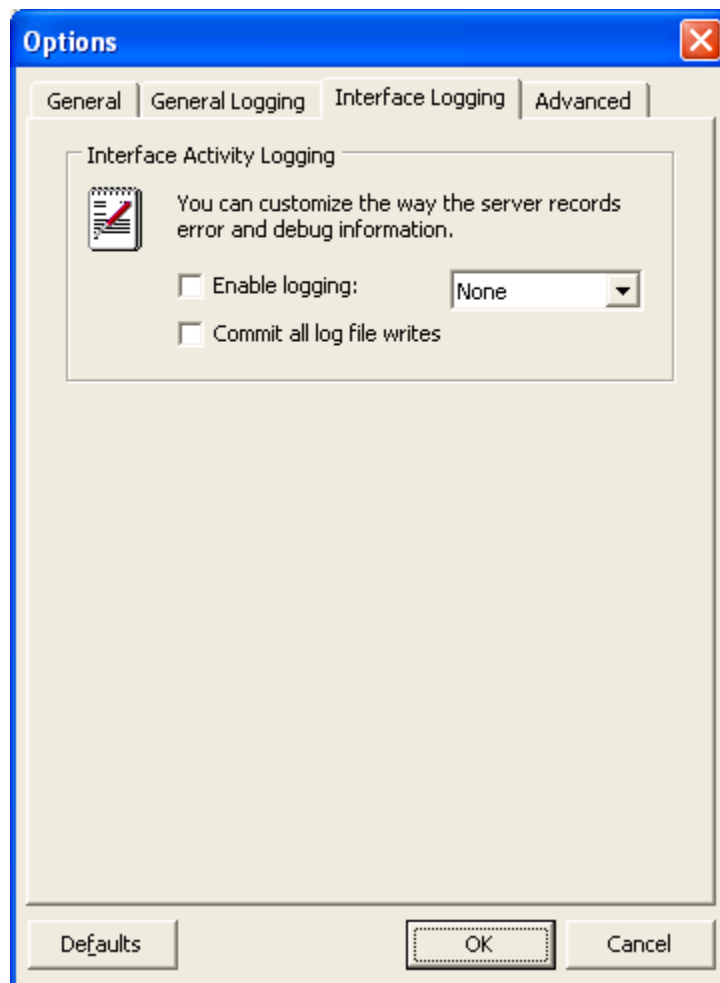

Figure 17 - Interface Logging Options Tab
3. From the **Options** window, select the **Interface Logging** tab (Figure 17).